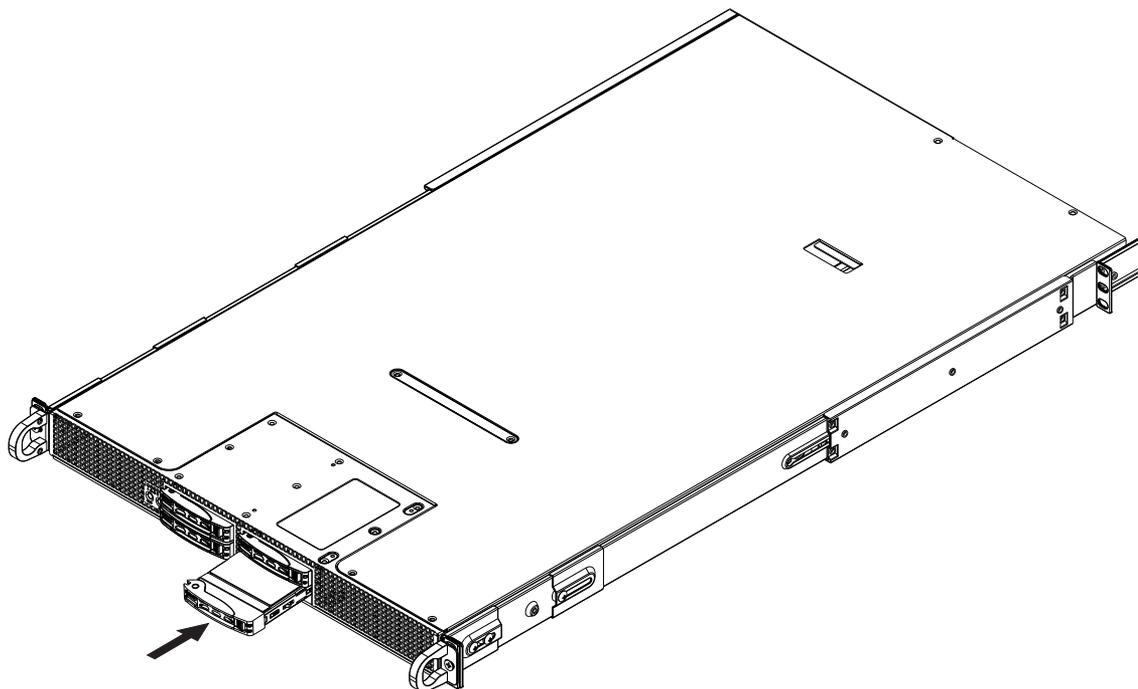

Figure 6-4 Hard Disk Drive Installation Example
6. Using your thumb, push against the upper part of the hard drive handle until the assembly clicks into the locked (fully seated) position, see Figure 6-4 on page 47 for an example.